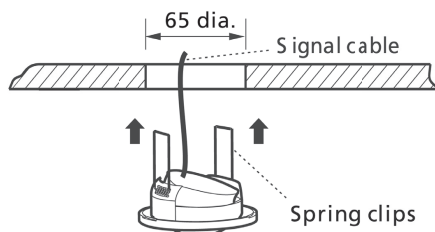

Fig. 10-A
3.3.4 Force the spring clips back until they can feed into the ceiling hole (see Fig. 10-A) and then push the sensor upwards into place so that its flange fits tightly against the ceiling (see Fig. 10-B).